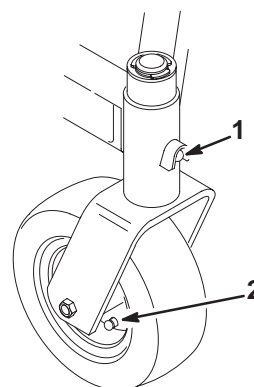

Figure 24
3. Grease the fittings on the carrier frame mounting tubes and caster wheels (Fig. 24).